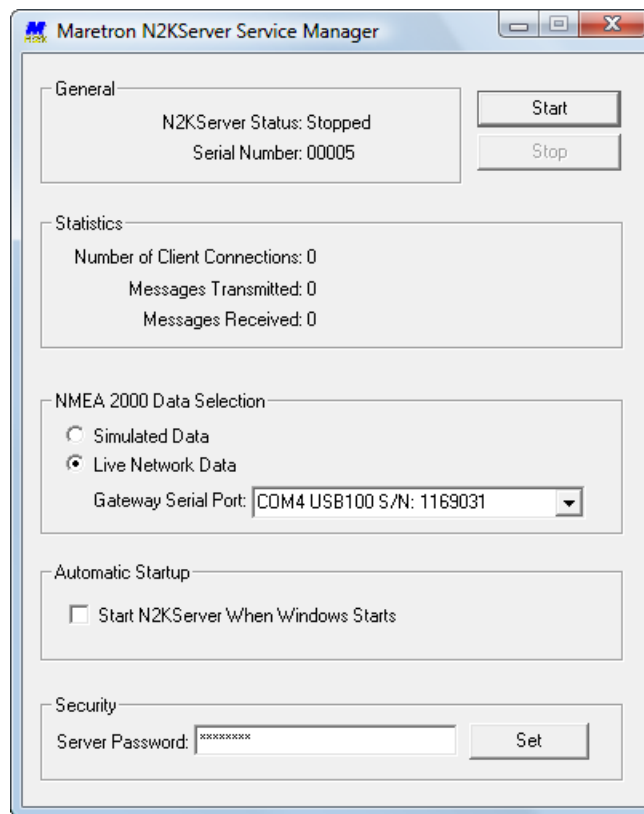

Figure 8 – N2KServer Service Manager Window
- Click anywhere inside the N2KView screen to display the screen tabs as shown in Figure 8 above.